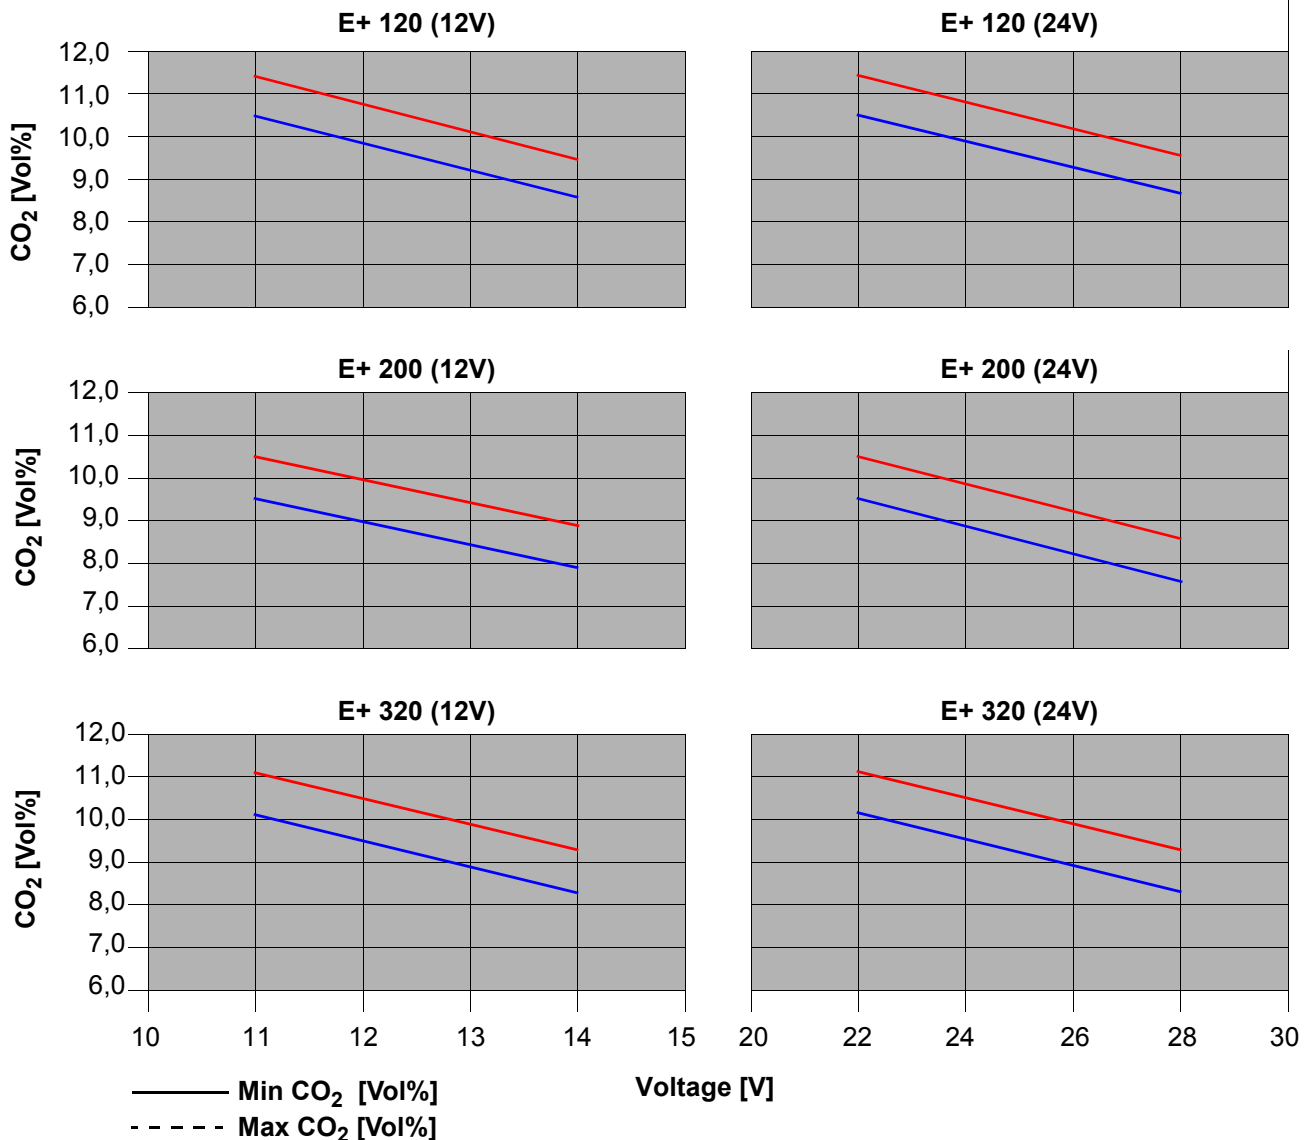

Fig. 702 CO2 Content
1. After a combustion period of approx. 3 min. measure the CO2 content in the exhaust and compare it with the target value in Fig. 702.
3. Measure the CO2 content and compare readings with the appropriate diagram (see Fig. 702).